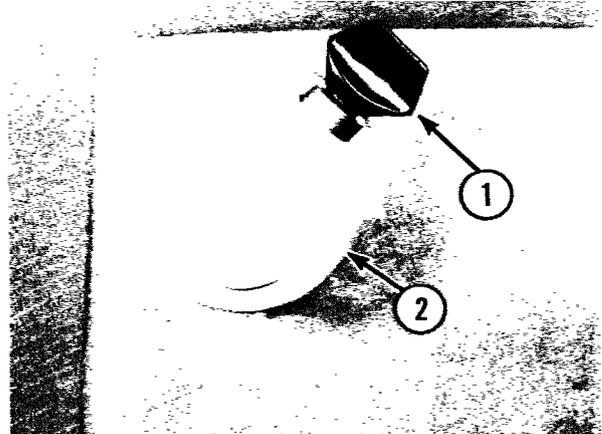

Fig. 2-49
- (1) Remove the thumb screw (1, Fig. 2-49) and remove the trim cap and attachment plug (2, Fig. 2-49).